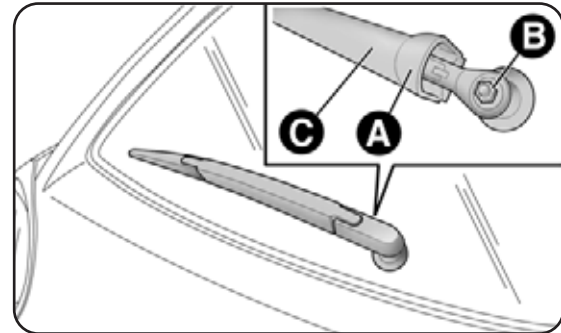

fig. 9
- lift cover A-fig. 9, undo nut B and remove arm C;